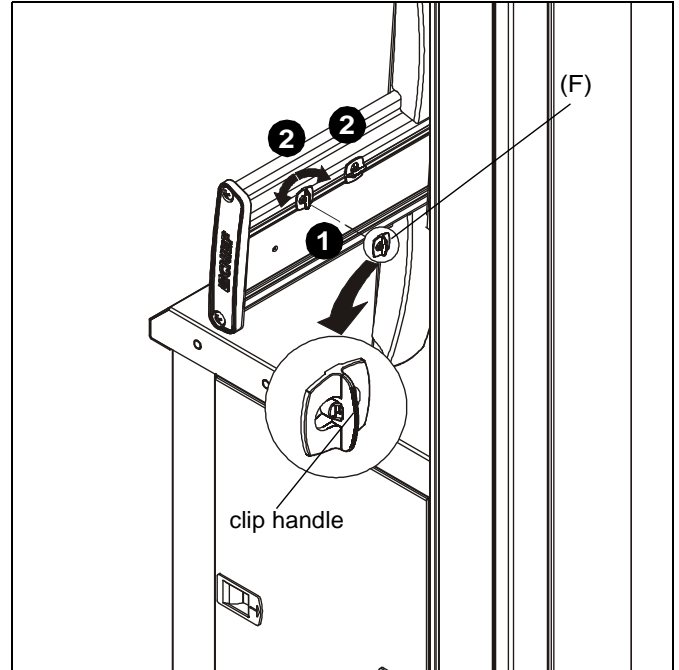

Figure 12
1. Place FCA clip (F) into groove on back of Fusion mount with clip handle in a vertical position. (See Figure 12)
2. Rotate FCA clip (F) 90° in either direction until clip handle is in a horizontal position. (See Figure 12)